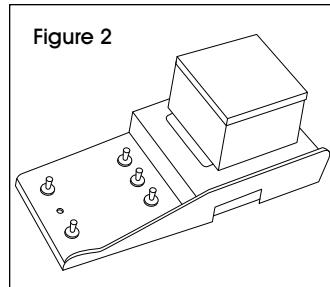

Figure 2
1. Remove five nuts and washers located on the tower end of the frame using a 9/16" wrench. (See Figure 2)